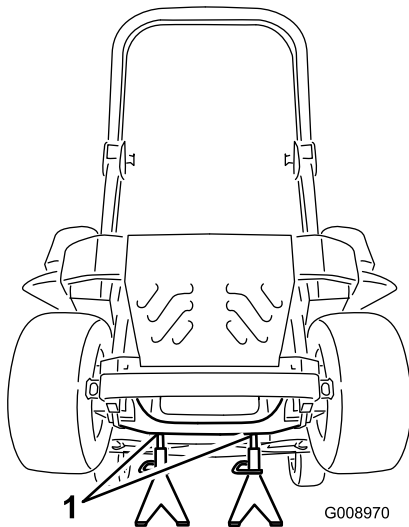

Figure 102
3. Raise the machine and support it with jack stands (Figure 102).
9. Remove the jack stands and lower the machine (Figure 102).